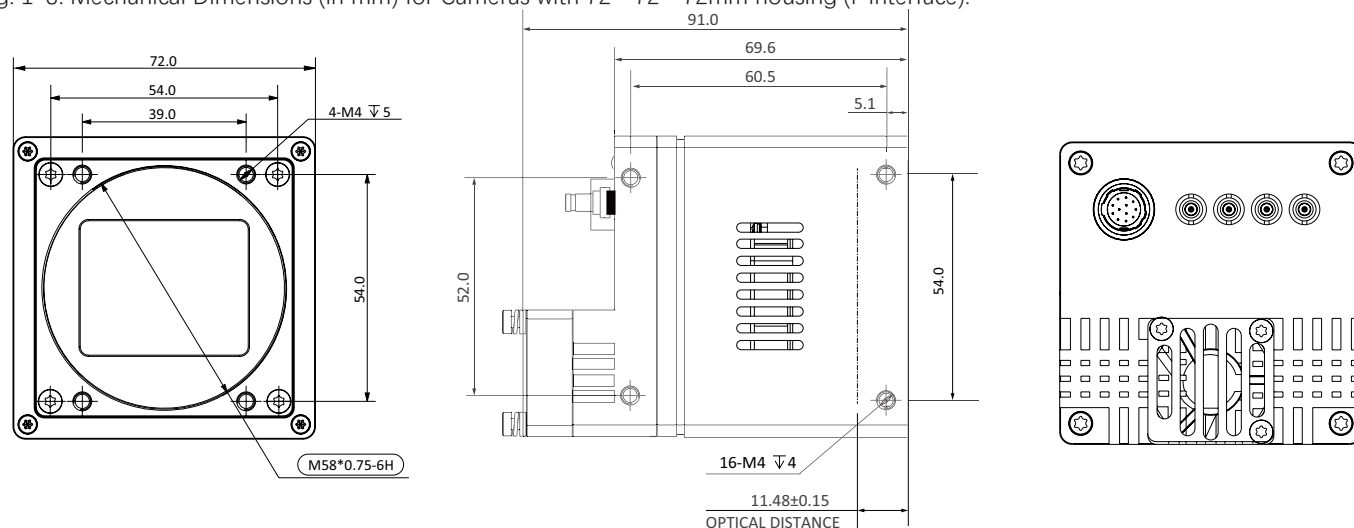

Fig. 1-4: Mechanical Dimensions (in mm) for Cameras with 72 \* 72 \* 69.6mm housing (M58 interface).
- Fig. 1-4: Mechanical Dimensions (in mm) for Cameras with  $72 \times 72 \times 69.6$ mm housing (M58 interface).